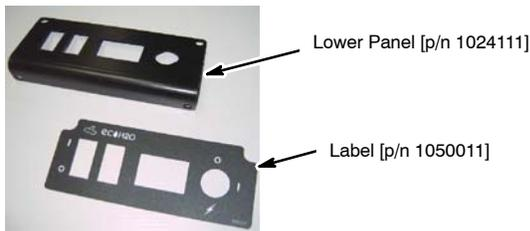

Fig. 20
- Remove the components from the lower panel (*take note of wire connections before removing*). Using new lower panel [p/n 1024111] and label [p/n 1050011], re-install components (Figure 20).